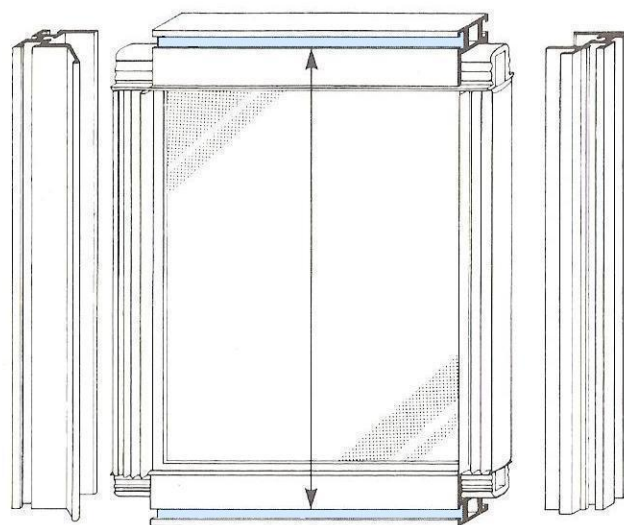

Figure 10
g) Measure the distance between the inner edges of the seal slots to the top and bottom glass carriers (Figure 10). Cut one length of glass carrier with the integral handle (Section D1) to this size. Also cut one length of glass carrier with interlock (Section D2) to the same size.